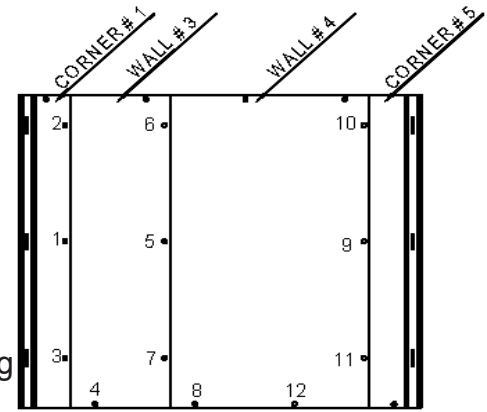

Figure 4a - Wall Locking Sequence
3. The typical and best sequence of locking the wall panels and floors together to ensure the wall panels are aligned at the top and bottom can be seen in Figure 4a.